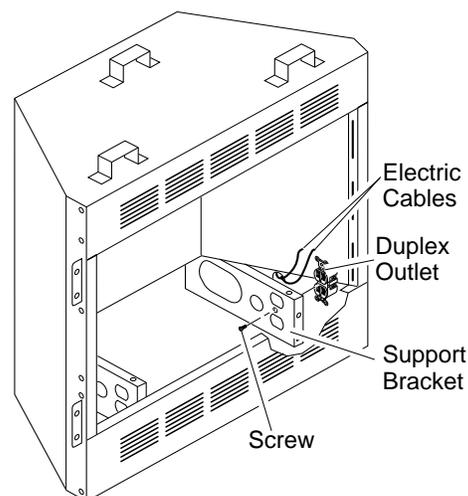

Figure 19 - Removing Duplex Outlet
- Locate duplex outlet mounted to support bracket in lower right hand side of firebox. Remove screw holding duplex outlet to support bracket in bottom of firebox. Remove duplex outlet (see Figure 19).